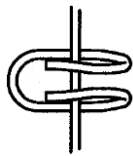

fig. 2
- Step 2 Pass both free ends of the loop over the line and back down through the opposite end of the loop (fig. 2 & 3).